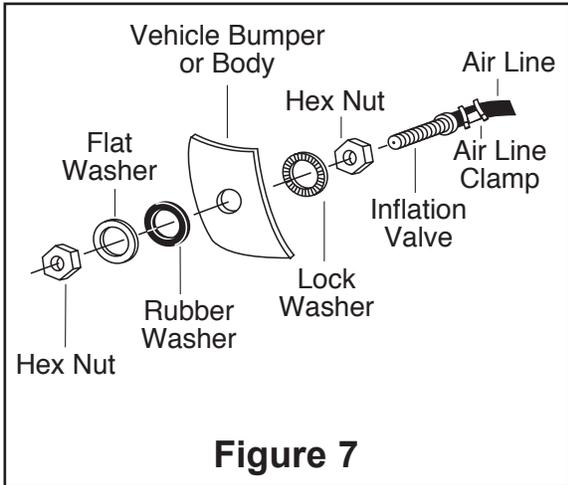

Figure 7
I. Drill a 5/16" hole for inflation valve and mount as illustrated (Rubber washer is for outside weather seal (Figure 7).
- F. Drill 5/16" hole for inflating valves and mount as illustrated (Rubber washer is for outside weather seal, Figure 7).